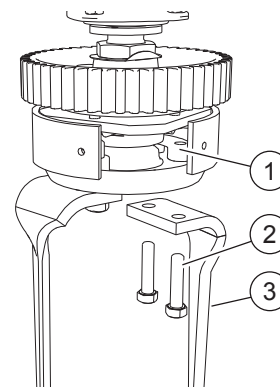

FIG. 37
- Loosen the two bolts (2, “Fig. 37”).
- Remove the block (1).
- Remove the blade (3) sideways.